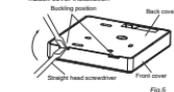

Fig. 5
1. Use straight head screwdriver to insert into the building position in the bottom of wire controller, and spin the screwdriver to take down the back cover. (Pay attention to opening direction, otherwise will damage the back cover) (Fig. 5).